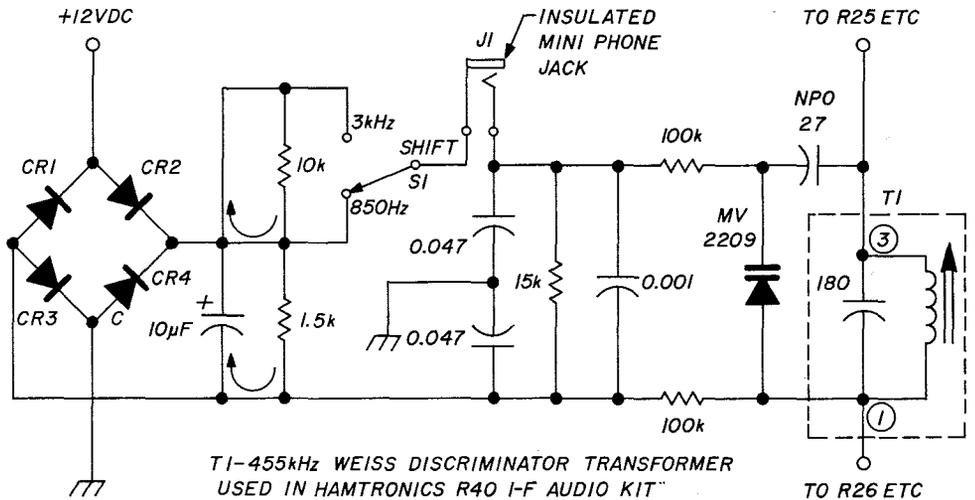

Figure 14-6.
Figure 14-6 illustrates the final version of the *Crystalmatic* modulation system and its above-ground power supply.
Bridge rectifier CR1-CR4 (*Figure 14-6*) increases the dc modulating voltage to the MV2209 varicap (varactor) above ground, so that the Weiss phase detector remains in balance with respect to dc ground. CR1-CR4 may be most any variety from the junk box. They deliver only 800 microamps. (I used some mini-silicon switching diodes from Poly Paks, 200 for \$2.00.)
The pots used to adjust frequency shift, shown in *Figure 12-9* were replaced by fixed resistors in the schematic of *Figure 14-6*, the final version. It was found that the LM3900 level control "lock" range adjustment, on the X528 crystal-controlled injection signal, allowed ± 50 percent frequency shift adjustment on either the 850-Hz or 3-kHz positions of switch S1. Either frequency shift, 850 Hz or 3 kHz, may be heard in your communications receiver.
The NPO 27-pF disc cap in series with the MV2209 varicap (varactor) (*Figure 14-6*) might just as well be a mica cap if you have one and can fit it into the narrow space available. *Figure 14-6* shows the 180-pF cap that's installed internally in transformer T1. *Figure 12-9* didn't show this internal capacitor.
6. Crystalmatic modifications illustrated in Figure 14-6 and 14-7 completed and double checked?